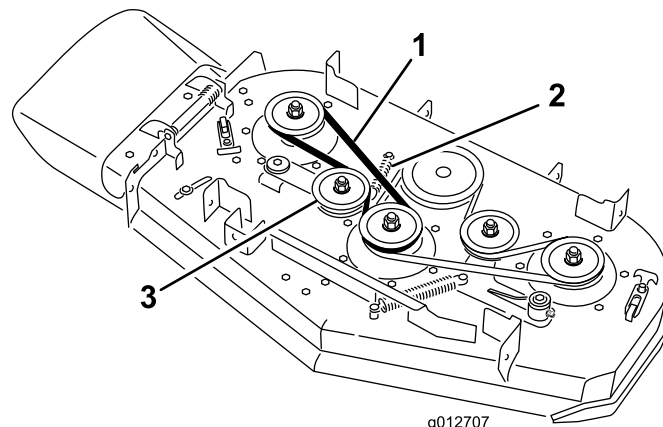

Figure 65
4. Remove the spring from the anchor post on the idler-pulley arm (Figure 65).
5. Remove the worn mower belt (Figure 65).
6. Install the new mower belt around the deck pulleys and idler pulley (Figure 65).
7. Install the spring onto the anchor post on the idler-pulley arm (Figure 65).